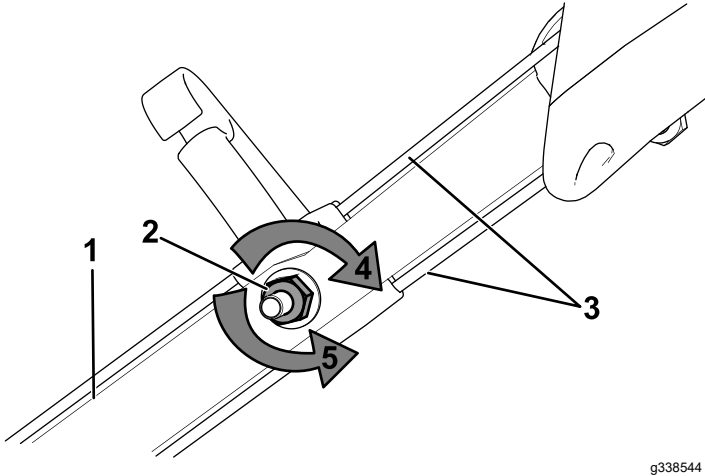

Figure 29
1. Turn the adjustment nut counterclockwise to loosen the cable adjustments (Figure 29).
2. Adjust the tension on the cables (Figure 29) by pulling them back or pushing them forward and holding that position.